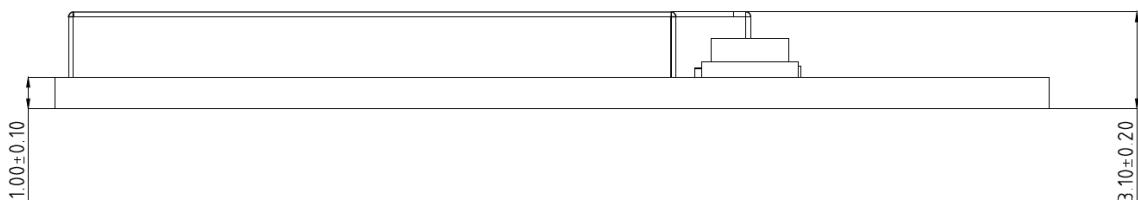

Figure 14 EMW3165 Side View
- Please according to the SMT reflow soldering curve, peak temperature 245 °C, reflow soldering, temperature curve as shown in figure 14, section 7.6;